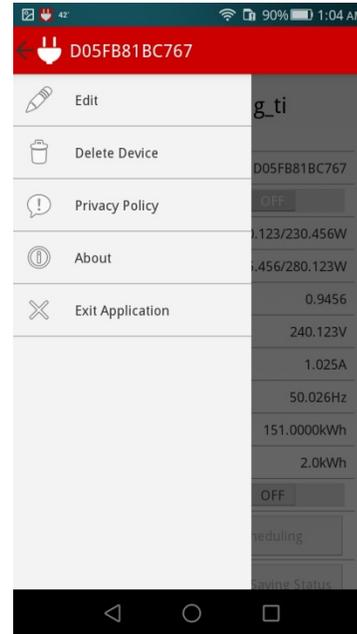

Figure 23. Device Menu in Android
1. If the Smart Plug was added to your cloud account via the Android application, you can simply delete the device from the App menu by choosing the "Delete Device" option (see Figure 23). Synchronization will be done automatically.